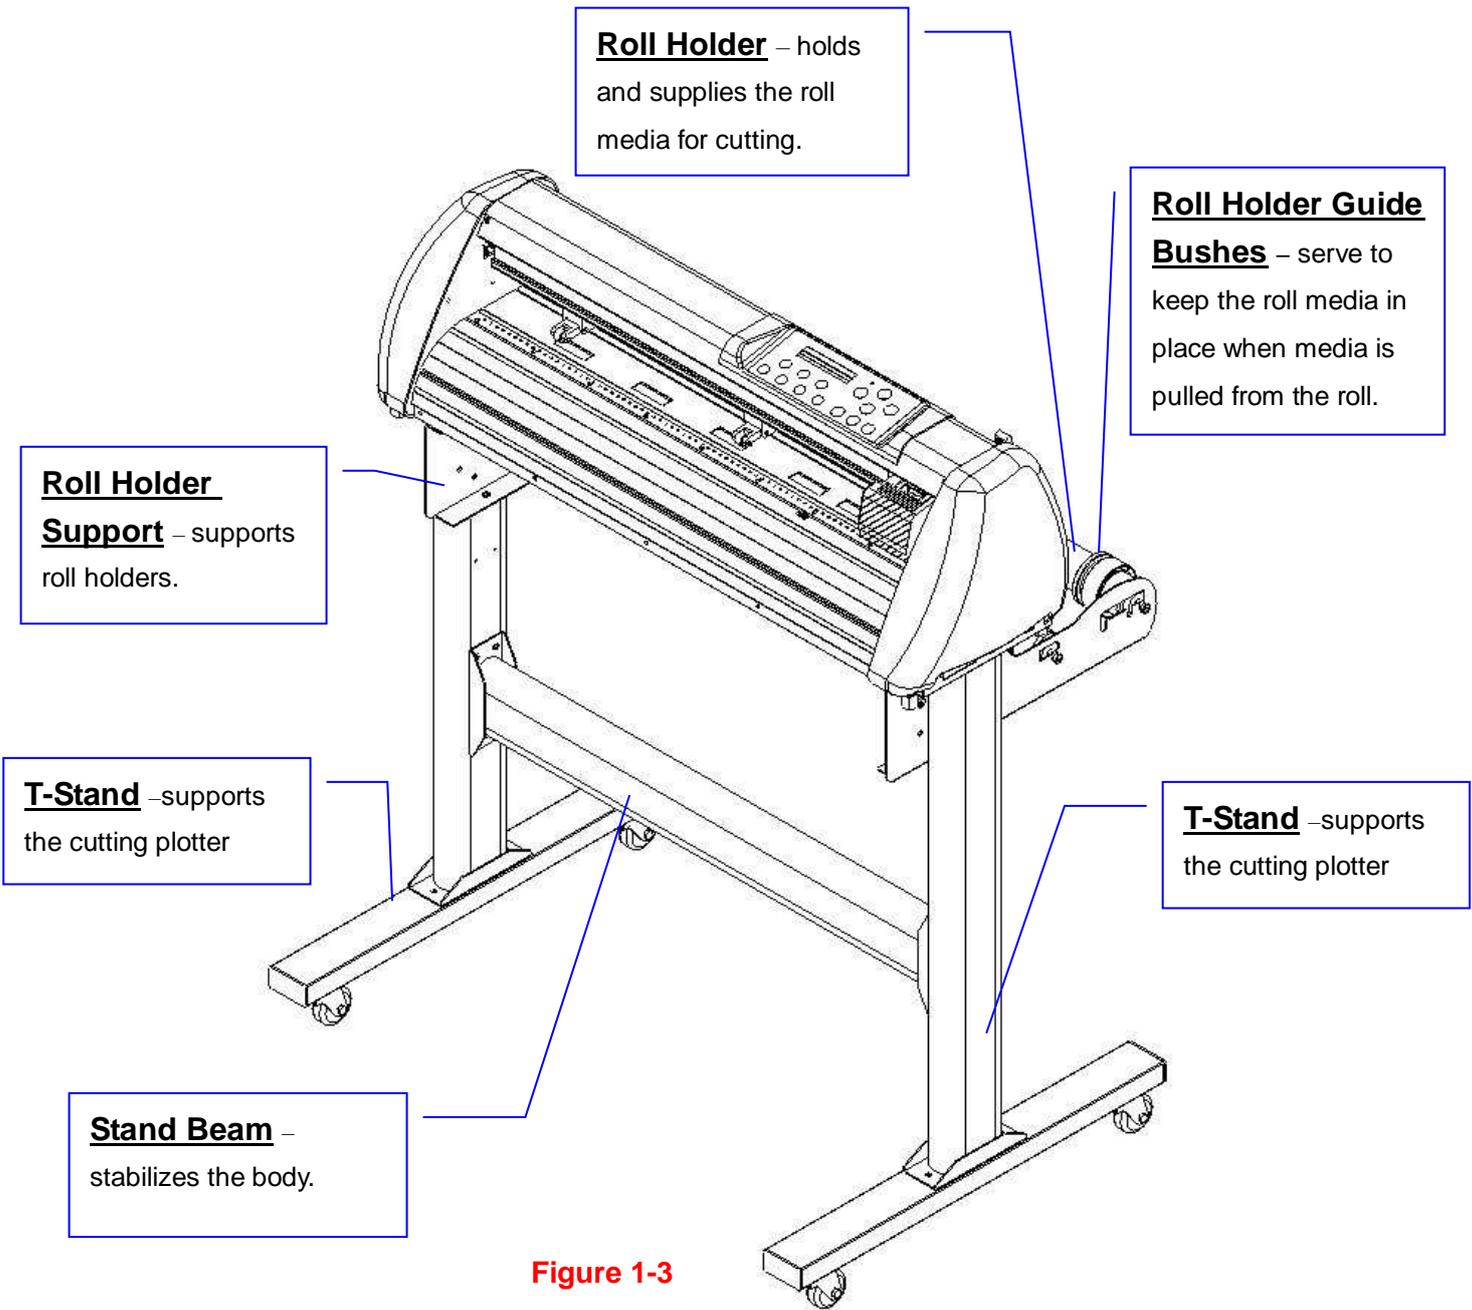

Figure 1-3
1.4.3 The Whole View of Jaguar V (Figure 1-3)